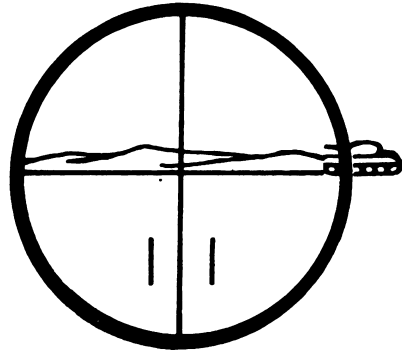

Figure 8
c. If there are no covered areas (fig. 8), there is enough time to fire and hit the target. The target IS engageable.